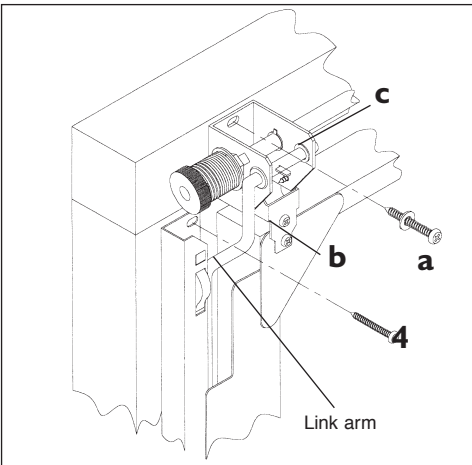

FIG 2
2 a. Insert the **gold** coloured screw with M6 washer into the slotted hole at the top of both Spring Mounting Brackets. Do not fully tighten at this stage (see fig. 2).
c. Remove remaining screw on the side of the Transit Brackets (see fig. 2) and discard the Transit Brackets.
3 Re-check that door is positioned centrally between timbers and that both link arms (see fig. 2) are equally set relative to door panel edge (any minor adjustment will be available on the Spring Mounting Bracket top slotted holes) before inserting lower **gold** coloured screw and M6 washer in each side.
4 On the **upper** fixing slot in both runners, pilot drill 4.0 dia. x 25 deep then insert and tighten a No. 12 x 1 1/2" Round Head Posi. screw (see fig. 2).
5. Remove 4 screws securing the two spring mounting brackets. (See Fig.2)